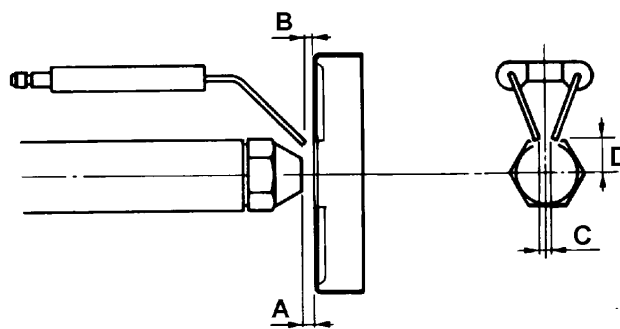

Fig. 26
- disassemble, check and clean of the combustion head. When re-assembling carefully observe the measures quoted in Fig. 26;
Before disassembling the nozzle and the electrodes, disconnect the cables CV (Fig. 24), measure the positions quoted in Fig. 26 and make a note in the table on Tab. 5.
Before disassembling the nozzle, measure the real position "A" (see Fig. 26) and make a note in the table below.